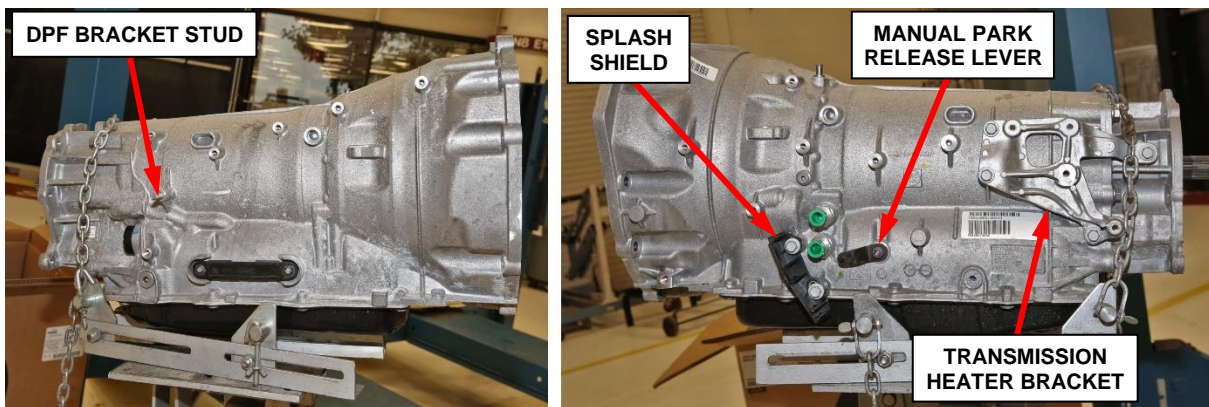

Figure 50 – Transfer Remaining Parts to NEW Transmission
67. Transfer any remaining brackets and parts from suspect transmission to **NEW** transmission which may not have been supplied with the NEW transmission before preparing the suspect transmission for core return (Figure 50).